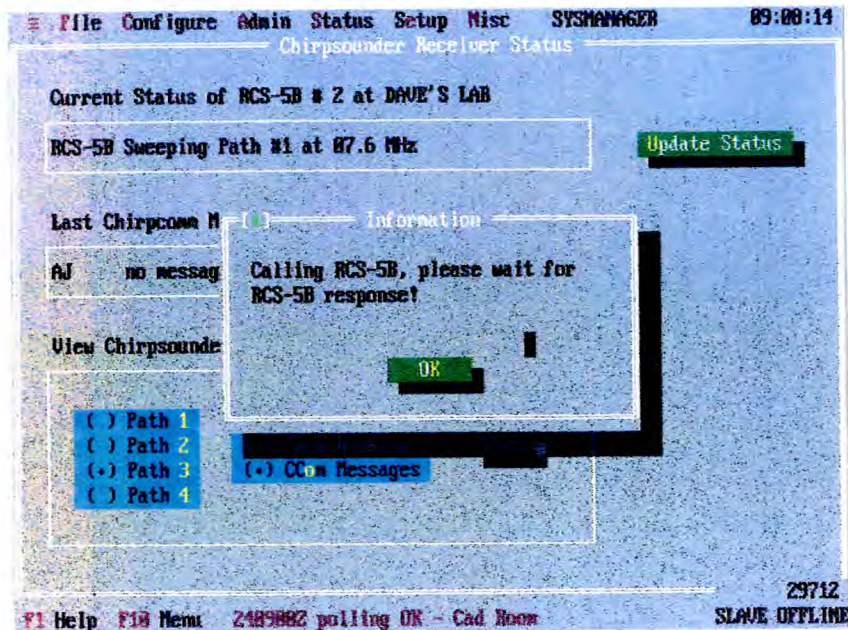

Fig 40
4.2 UPDATE STATUS : This selection obtains the real-time status of the RCS-5B. It obtains the sweeping frequency in MHz from the receiver at the time of enquiry for display. It will display the status as idle if no sweeping is in progress. Fig 40 shows the Information Box displayed while calling is in progress.